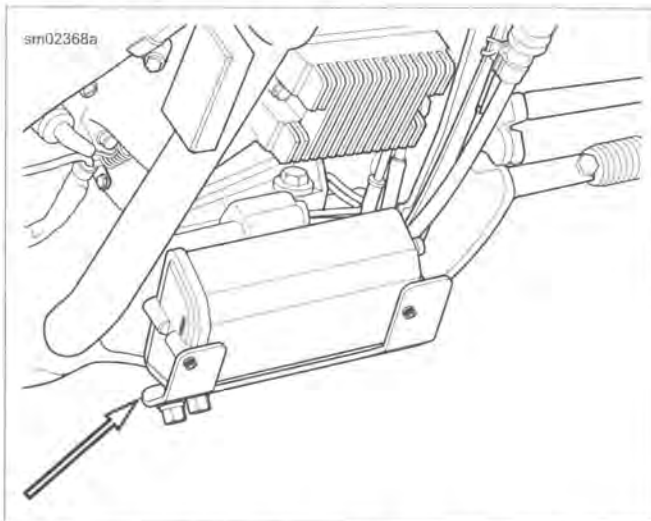

Figure 4-71. Charcoal Canister Location
See Figure 4-71. The EVAP charcoal canister is mounted between the forward frame downtubes.
1. See Figure 4-71. Slide charcoal canister into mounting bracket. Install two fasteners retaining charcoal canister. Tighten to 15-20 in-lbs (1.7-2.3 Nm).